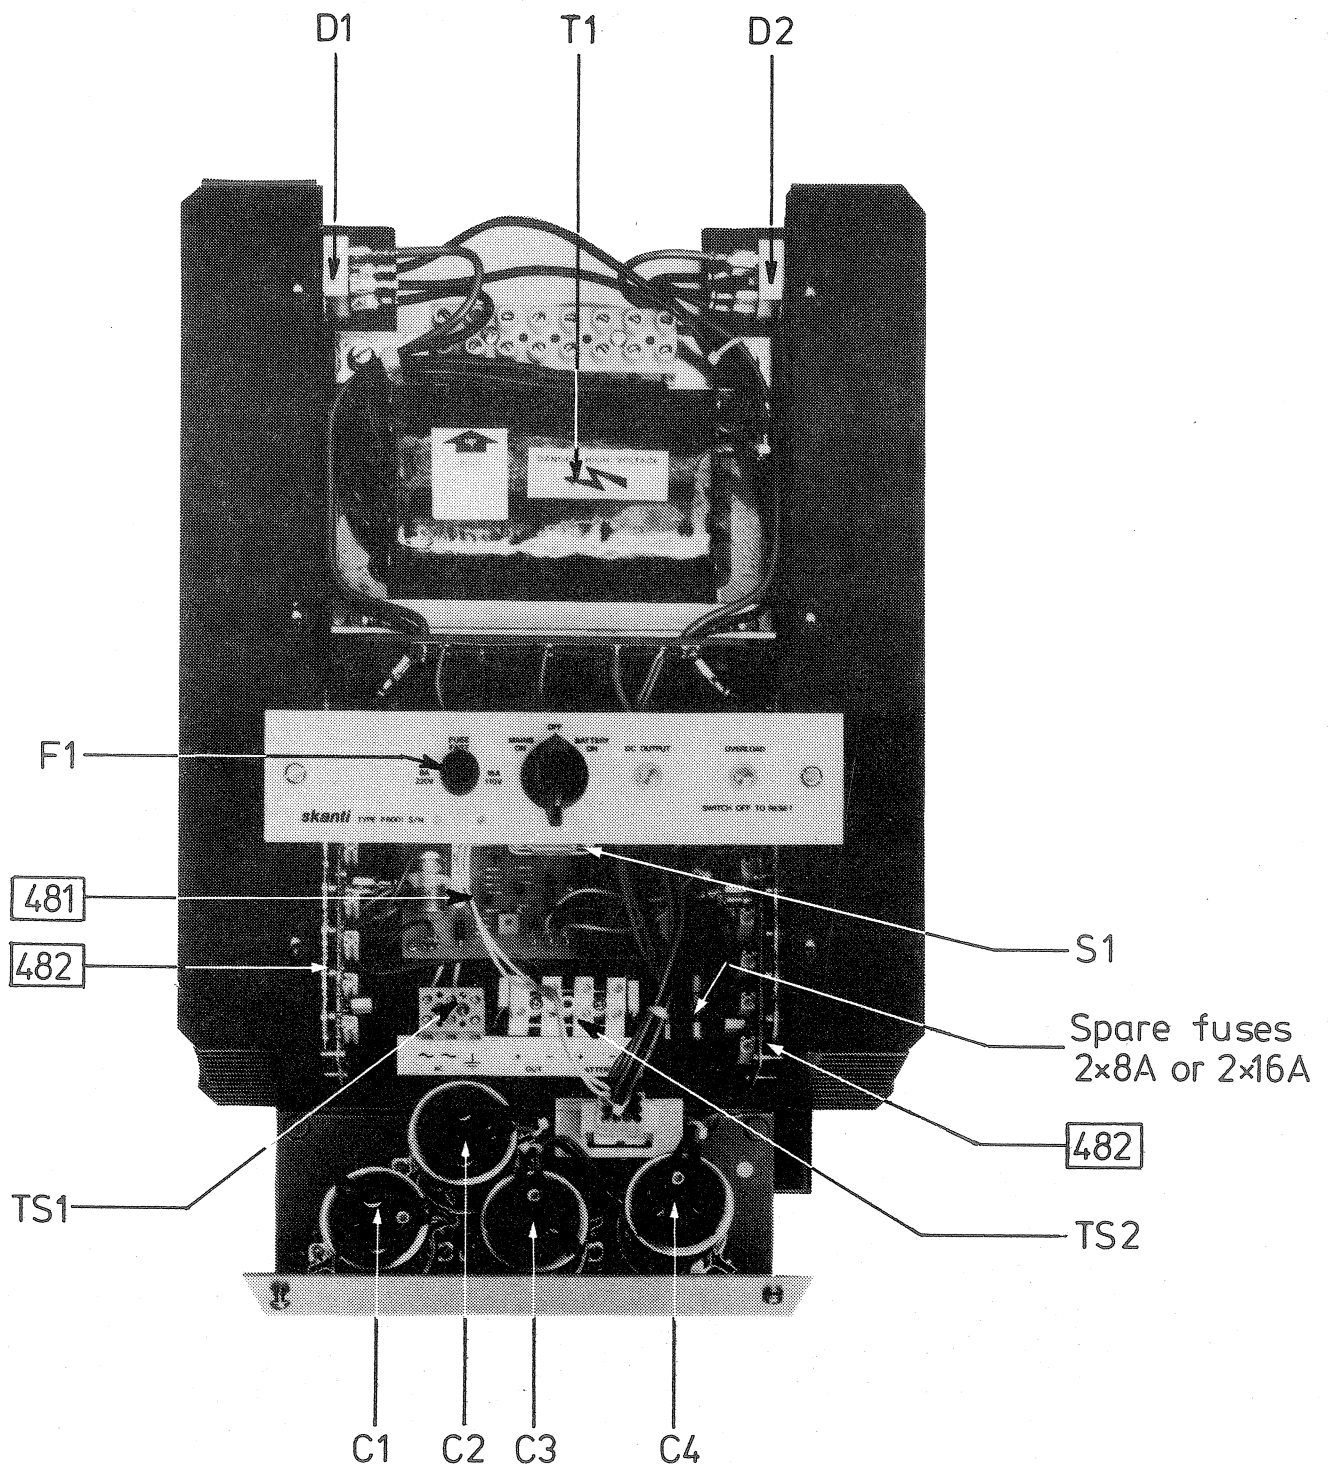

FIG. 3.2. LOCATION OF COMPONENTS
- D. Earth must be connected to pin 3 on terminal strip TS1 (see Fig. 3.2)
The different printed circuit boards and main components can easily be located on Fig. 3.2.